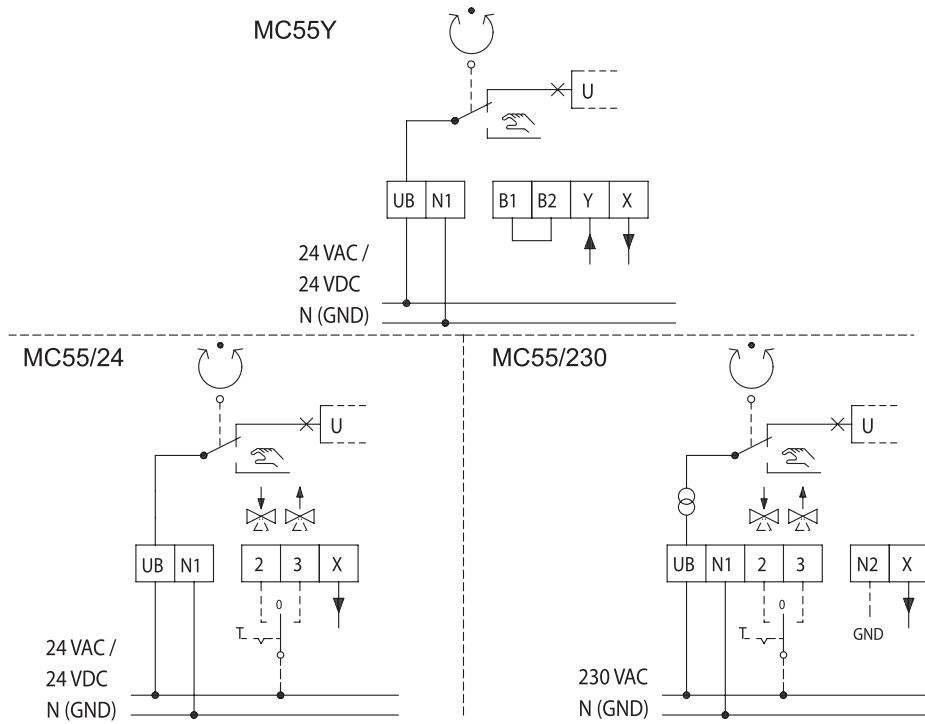

Fig 4.4 Circuit diagram
- 1 Remove the cover (201). See *Section 4.4, How to remove the cover*.
- 3 Connect the power supply according to the wiring diagram. See Fig 4.4.